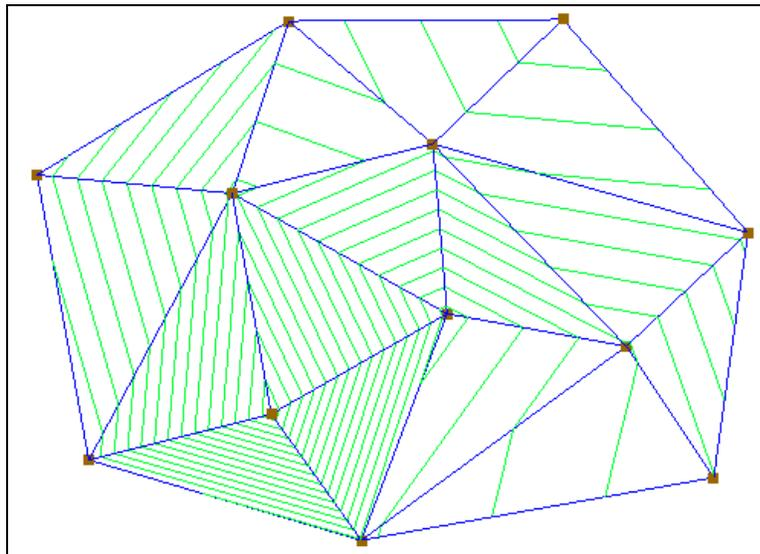

Figure 8 Scatter points appearing at the vertices
2. Right-click on “ sparse” TIN, and select *Convert To* | **2D Scatter Points**. A set of scatter points should appear (Figure 8).